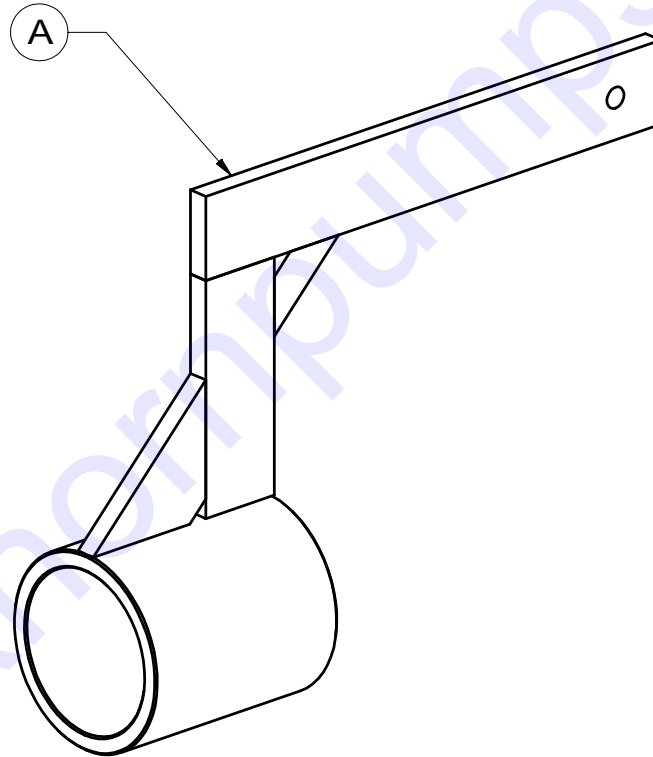

Figure 23: Crankshaft Lifting Tool
20. Install crankshaft in the power frame. It is recommended that two people be available for crankshaft installation due to the size and weight. A hoist and counterbalance lifting device should be used if possible. Refer to Figure 23 for
Handling the large crankshafts for the Q28 and Q32 pump assemblies requires great care to avoid injuries and to prevent damage to the critical surfaces of the crankshaft. The illustration shown in Figure 23 depicts a lifting tool that will slide onto the drive end of the crankshaft and is balanced to allow easy removal. Contact FMC for tool details if required.